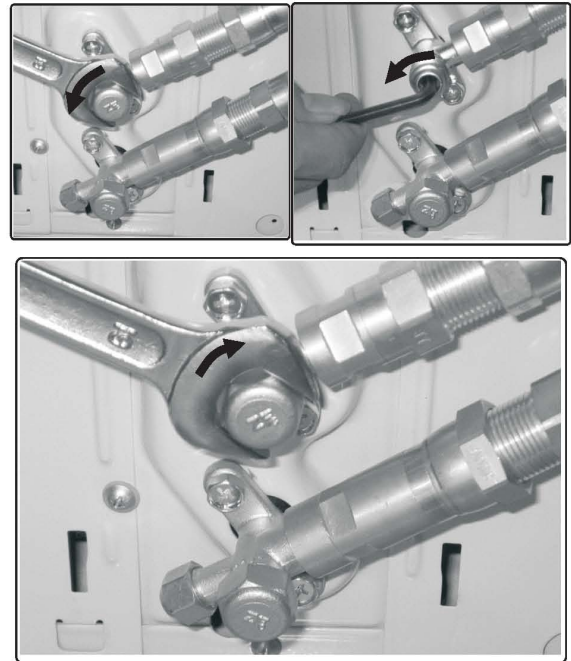

Fig.24
5. Now remove the cover on the top valve using a 19 mm open-ended wrench. Open the valve by turning it counter-clockwise as far as it will go using a 5 mm Allen key. The valve is now open. If the valve is not opened fully, the system may malfunction and suffer damage. Screw the cover back on to the top valve and tighten it well to ensure that it is properly sealed. See Fig.24.